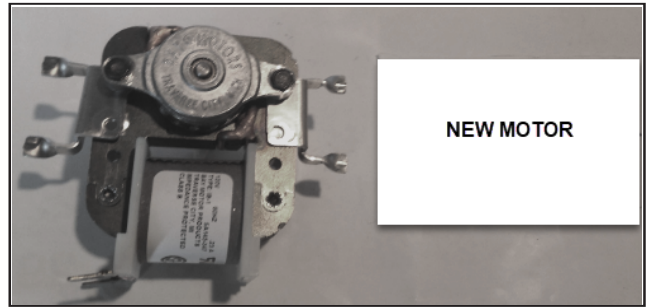

Figure 7
- Reinstall the bearing block screws. See *Figure 7*.